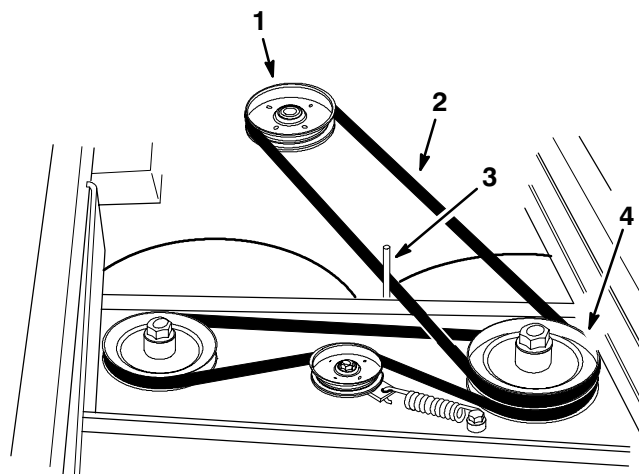

Figure 28
4. Remove the worn drive belt (Fig. 28).
5. Install the new drive belt onto the traction unit drive pulley and the top pulley on the left spindle (Fig. 28).
7. Check the position of the belt guide. The guide should be positioned about 3 mm (1/8") away from the belt. Adjust the belt guide as necessary (Fig. 28).